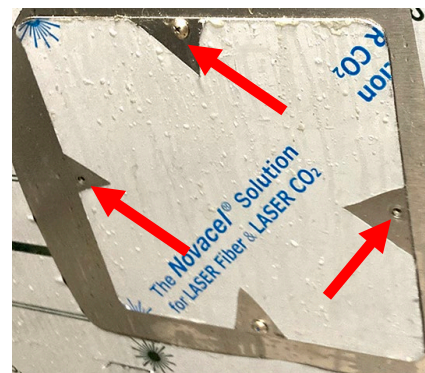

Figure 13
- a. Remove the top and two (2) side screws attaching the left side access panel (see Figure 13).